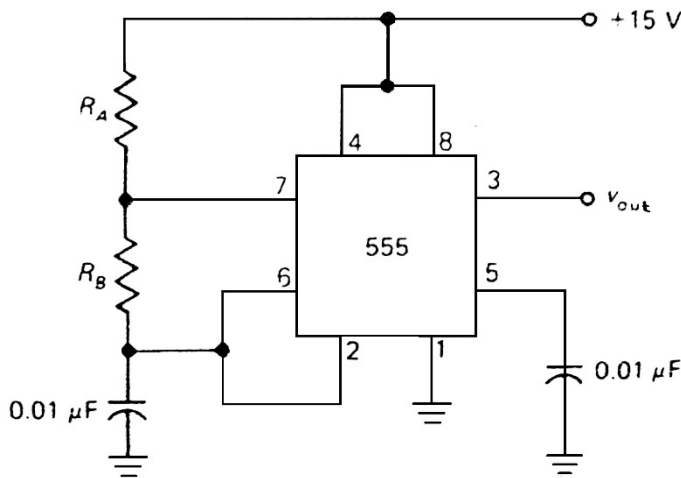

Figure 5.9. Experimental Astable 555 Timer
1. Calculate the frequency and duty cycle in figure 5.9 for the resistances listed in table 5.1. Record the results under $f_{calculated}$ and $D_{calculated}$!
2. Connect the circuit of figure 5.9 with $R_A = 10\text{ k}\Omega$ and $R_B = 100\text{ k}\Omega$!